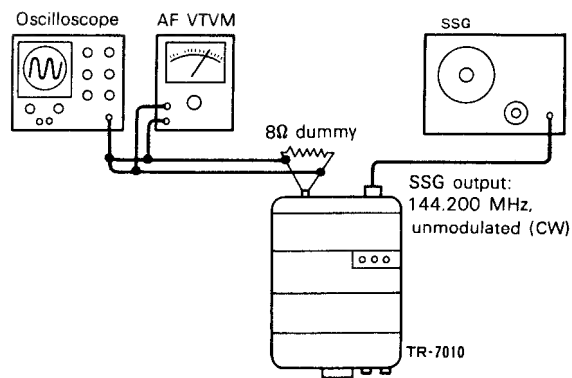

FIG. 16 RECEIVE SENSITIVITY ADJUSTMENT
- (1) Connect the measuring instruments as shown in Fig. 16.